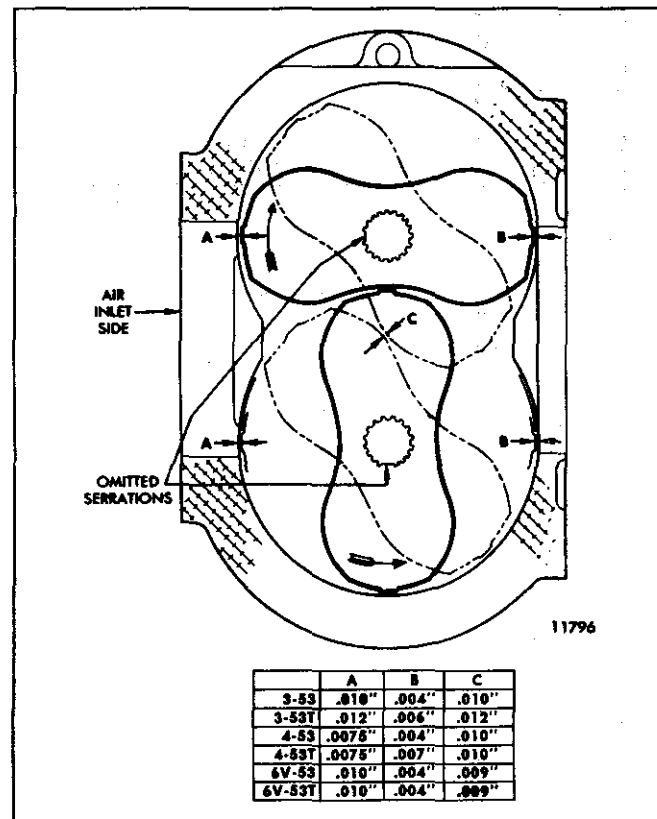
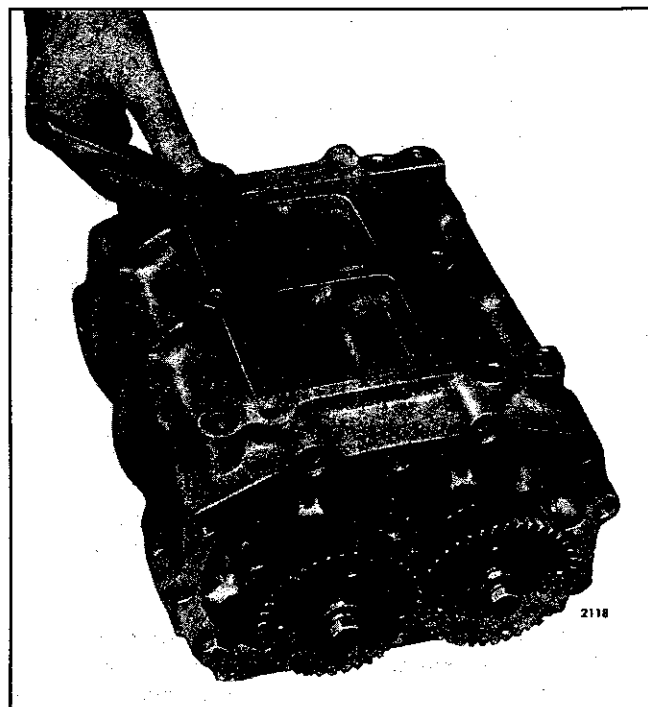

Fig. 16 – Minimum Blower Rotor Clearance
Fig. 18 - Measuring Rotor Lobe to Housing Clearance
10. Position the rotors so that the missing serrations on the gear end of the rotor shafts are 90° apart. This is accomplished by placing the rotors in a "T" shape, with the missing serration in the upper rotor facing to the left and the missing serration in the lower rotor facing toward the bottom (Fig. 16). Install the shims and spacers in the counterbore in the rear face of the rotor gears. Then, place the gears on the ends of the shafts with the missing serrations in alignment with the missing serrations on the shafts.
- a. Measure the clearance between the rotor lobes and the housing (Fig. 18). Take measurements across the entire length of each rotor lobe to be certain that a minimum clearance of .004" exists at the *air outlet side* of all blowers and a minimum clearance of .0075" (In-line engine blower) or .010" (6V engine blower) exists at the *air inlet side* of the blower (Fig. 16).
- b. Measure the clearance between the rotor lobes, across the length of the lobes, in a similar manner. By rotating the gears, position the lobes so that they are at their closest relative position (Fig. 16).